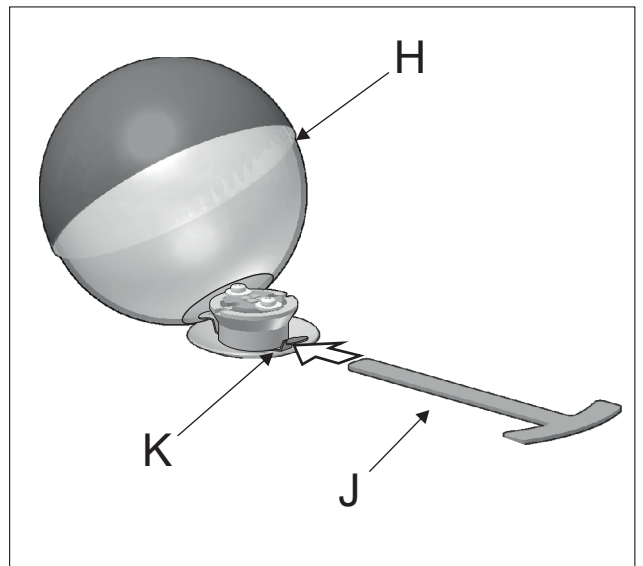
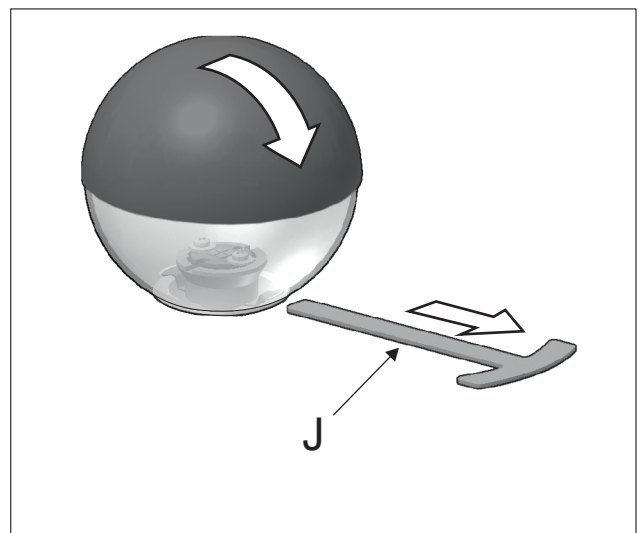

Figure 9a
Figure 9b
9 - Hold the screen (H) with one hand. Simultaneously press the other extreme of the clip (K) with the supplied tool (J) with the other hand. Figure 9a. Situate the screen in a horizontal position and remove the tool (J) slowly. Figure 9b. Carry this operation out with a lot of care.